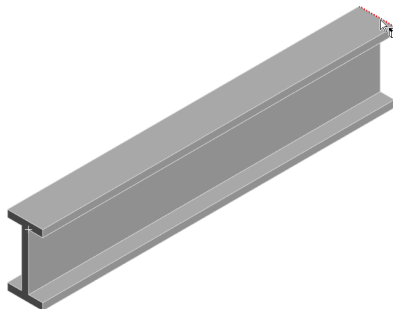

Figure 2-51 Selecting the edge for applying a force load
9. In the graphics screen, select the edge, just opposite to the face on which you have applied the Fixed support, refer to Figure 2-51.